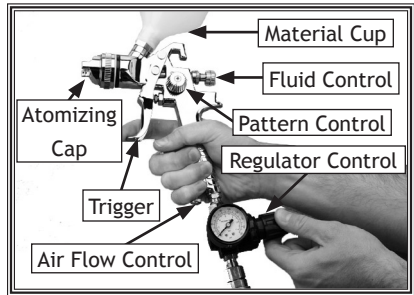

Figure 3. Controls.
3. Use the regulator control (**Figure 3**), to set the inlet air pressure to 30 PSI or to the material manufacturer's recommendations (not to exceed 70 PSI).
4. Adjust the atomizing cap (**Figure 3**) for a vertical or horizontal spray pattern. Refer to **Atomizing Cap and Fan Adjustments** on **Page 9** for further explanation.
- Adjust the fluid control knob (**Figure 3**), to start with a low volume of material and keep the atomization as low as possible. You will need to use a combination of fluid control, inlet air pressure, air flow control and stroke speed to achieve the results you want. Spray so the material wets out nicely without running or sagging.
- Use the pattern control knob (**Figure 3**), to adjust the spray fan to your desired pattern.